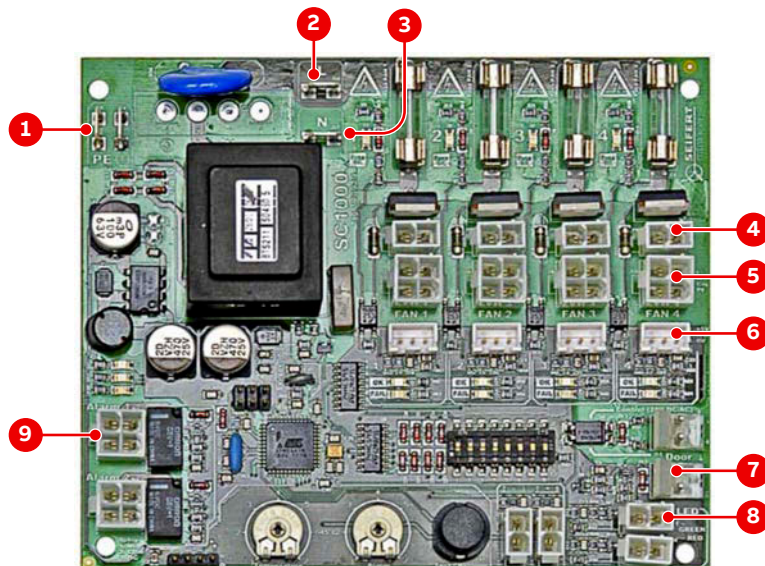

Figure 10–27 Wire connection points on the circuit board
7. Reconnect the wires to the circuit board (Fig. 10–27).